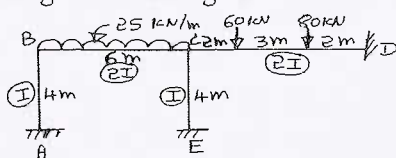

Fig.Q2 (16 Marks)
- 2 Analyze the rigid jointed frame as shown in Fig.Q2 by slope deflection method and also determine its bending moment diagram.